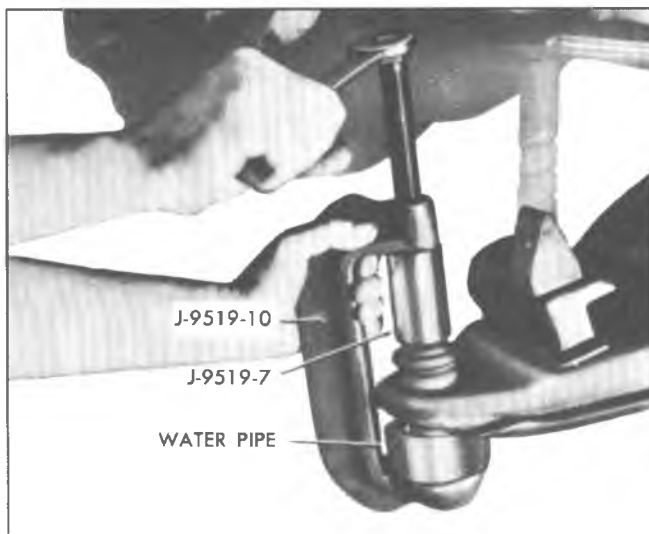

Fig. 36—Ball Joint Removal
7. Install Tools J-9519-10 and J-9519-7 as shown in Fig. 36.